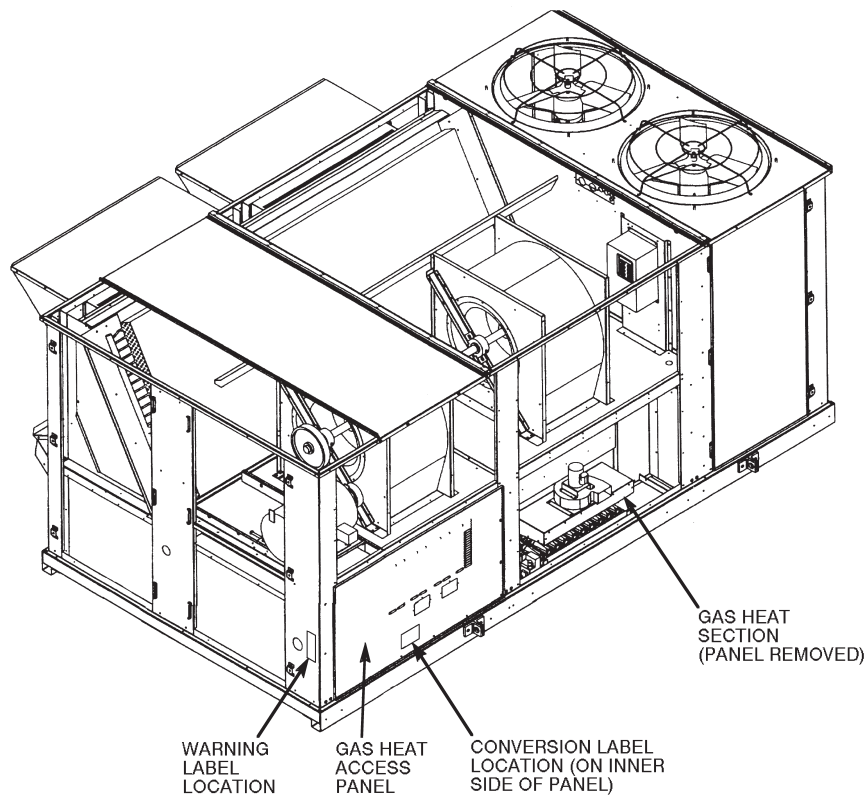

Fig. 1 — Typical Gas Heating Unit (20 Ton Unit Shown)
3. Remove gas heat access panels. See Fig. 1.
9. Attach warning label to corner post. See Fig. 1 for location of warning label.